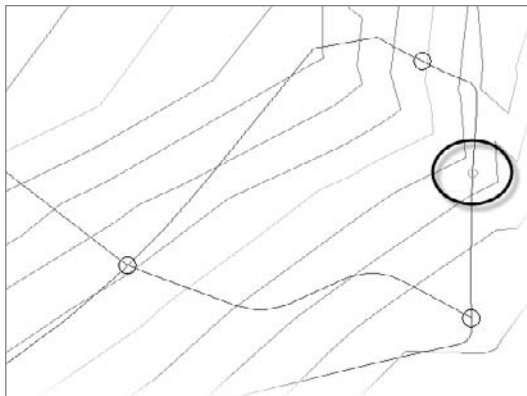

Figure A.100
22. Enter **0.5**↵ as the grade behind. A new elevation point will be created as shown in Figure A.100.